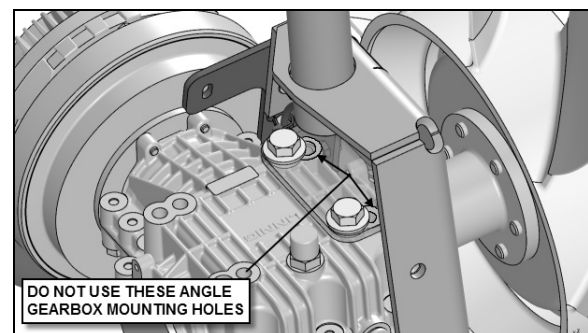

FIGURE 35: RIGHT ANGLE GEARBOX
1. Wrap the new drive belt around the fan drive mechanism pulley, the idlers and the automatic tensioner idler as shown on figure 35.